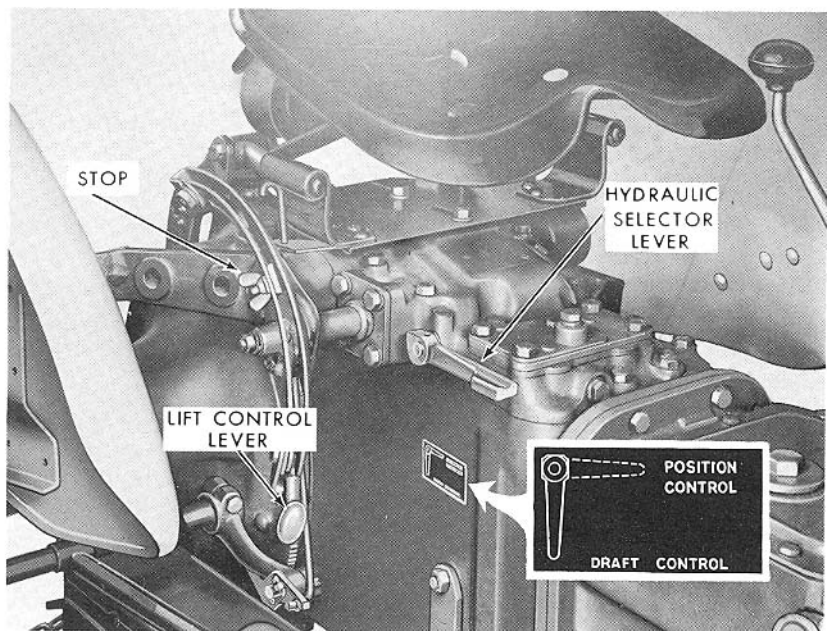

Figure 12
**Implement Position Control:** To operate the hydraulic system in Implement Position Control, move the hydraulic selector lever at the side of the tractor seat into the up position (see Figure 12), and set the implement at the desired depth by moving the lift control lever down. Where the ground is relatively level, the Implement Position Control will keep the implement at the desired depth, even though the soil texture may vary.
**Constant Draft Control:** With the hydraulic selector lever in the down position, as shown in Figure 12, the hydraulic system is operating in Constant Draft Control. When an implement is lowered to work at a certain depth, the draft control will maintain the same draft, even though the ground contour or soil texture may change. If the draft increases, the hydraulic system will respond by raising the implement to decrease the draft. At the same time, the weight will shift to the tractor rear wheels, increasing traction until the implement has been automatically repositioned and the draft is decreased.